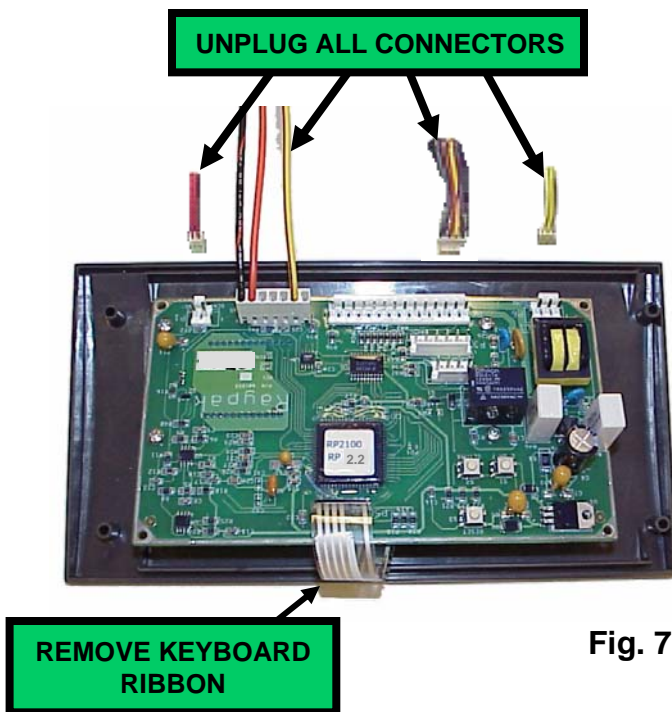

Fig. 7
1. Unplug all connectors from old circuit board. **Fig. 7.**